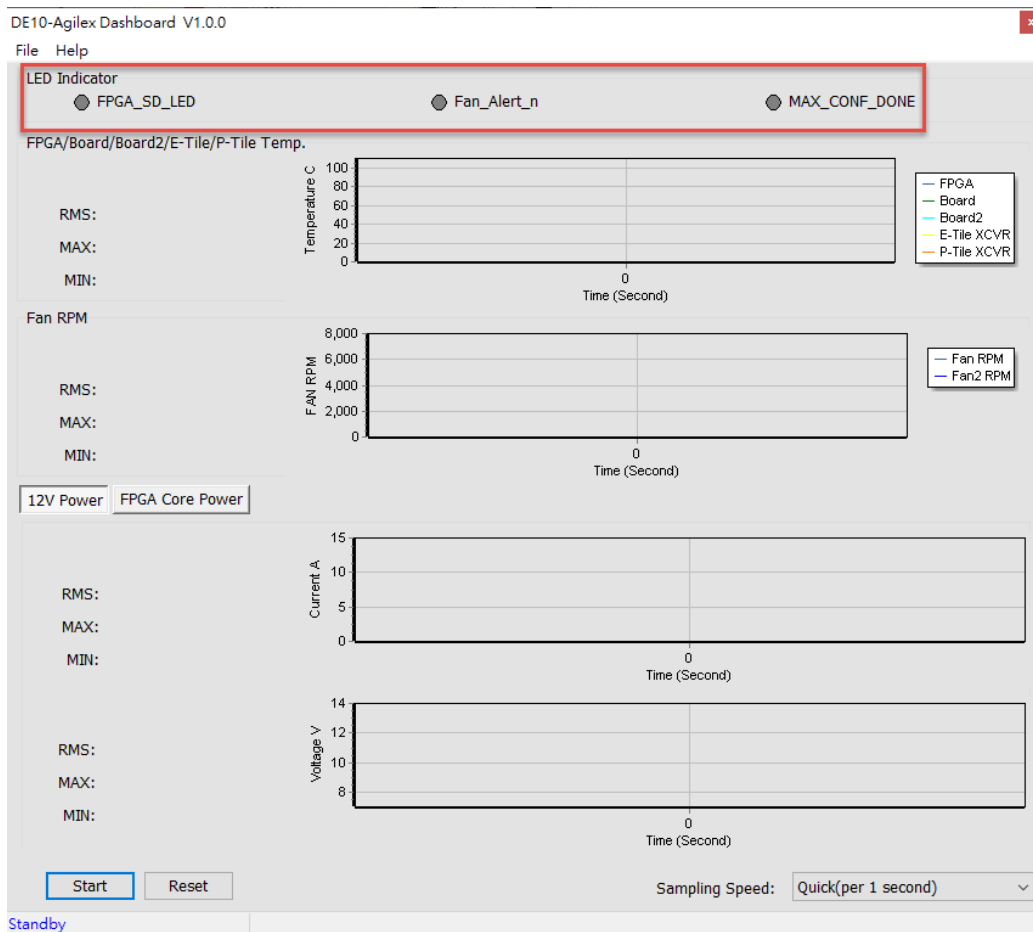

Figure 10-8 FPGA Status section
- **FPGA Status:** As shown in Figure 10-8, it will show the status LED number on the DE10-Agilex board. The definitions of these indicator LEDs are as follows: